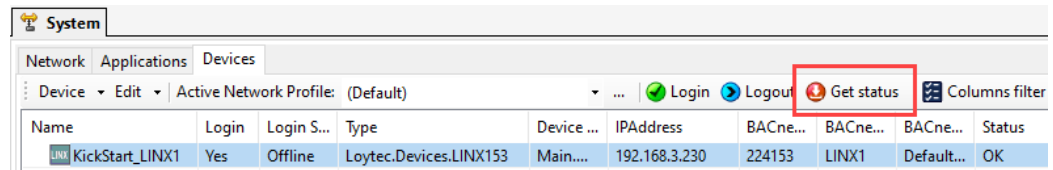

Figure 65: Test connection to the device resource.
23. To test click on the **Get status** button as shown in Figure 65. The **Status** column should now show **OK**.